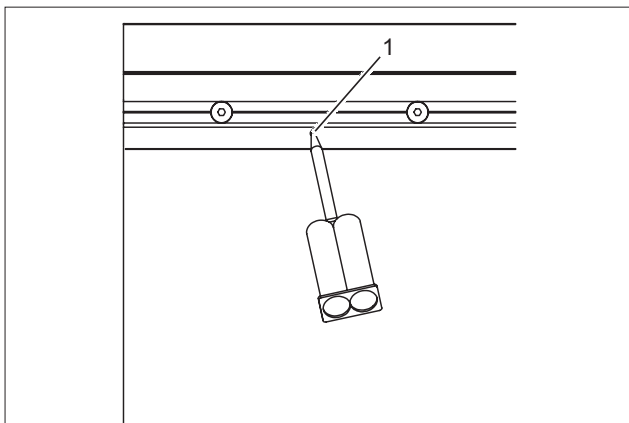

Fig. 11 Adhering the door rail
If vibration is expected from the glass pane during use, the upper door rail is adhered in addition to the LSG pane. 2 adhesive chambers are located on the upper door rail for this purpose. The chambers are located on the left and right on the inside of the panel. Each chamber has a fill hole (Fig. 11/1) through which the adhesive is applied.
1. Inject adhesive through the fill hole (Fig. 11/1), until the adhesive leaks on the edge of the adhesive chamber.